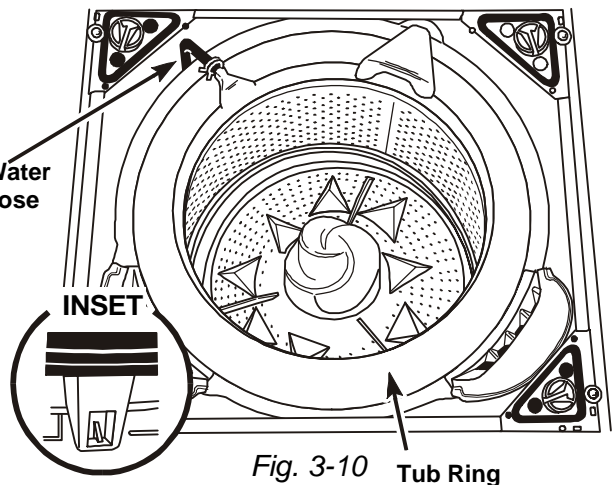
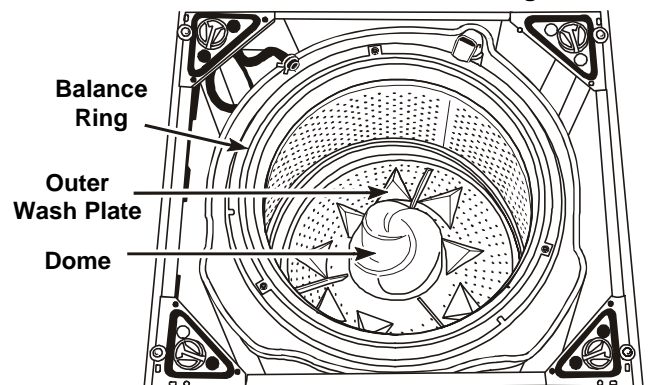

Fig. 3-10 Tub Ring
Fig. 3-11
3. Disconnect the fresh water inlet hose from the tub ring. (Fig. 3-10)
4. Unsnap the tabs that secure the tub ring to the tub. (Fig. 3-10 - INSET) Lift the tub ring from the tub.
5. Using a flat bladed screwdriver, release the three (3) tabs to separate the balance ring from the basket.
6. Using two (2) flat bladed screwdrivers, 90° apart, in the notches provided, separate the dome from the outer wash plate. (Fig. 3-11)